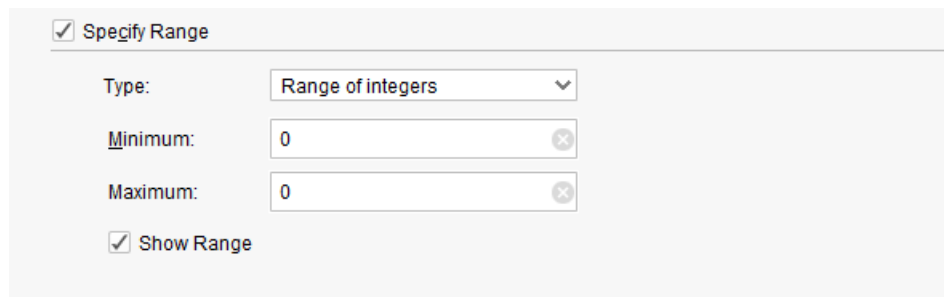

Figure 4-14: Range of Integers Restriction
- **Pairs:** Limits the value choices for the parameter from a predefined list similar to the list of values restriction; however, you can show the selections in the IP Customization GUI in a different format. A Key/Value pair list controls the value of the parameter (Figure 4-14).